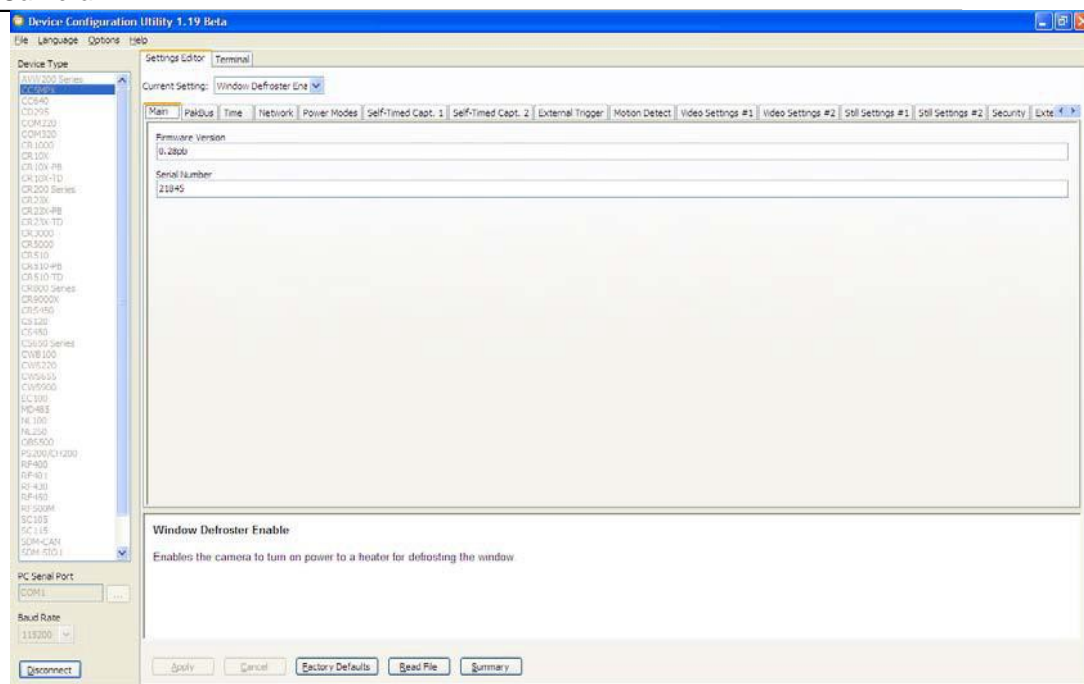

Figure 12-2 Device Configuration Utility Screen
- Once connected to the CC5MPX, use the tabs (see Figure 12-2) to navigate and configure the camera.